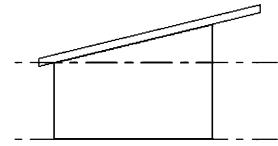

FIGURE 8-1.12 South elevation – shed roof (revised)
47. Switch to the South view to see the change (Figure 8-1.12).